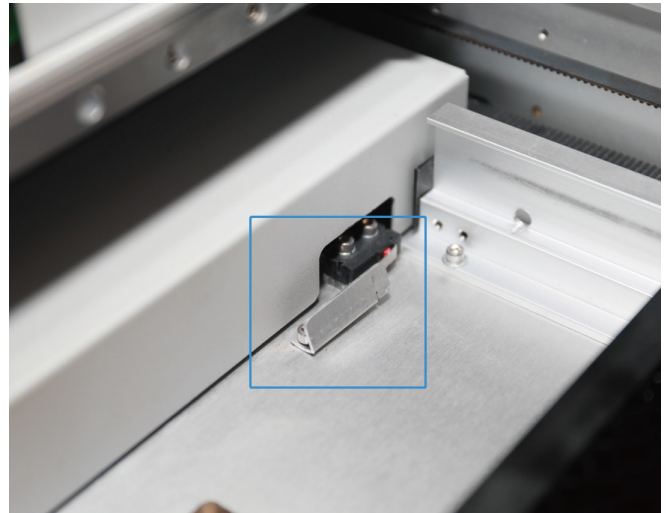

Figure 8
2) Check whether the drawer protection limit is working properly. When the drawer is pulled out, the protection limit red light goes out, the LED light dims, when the drawer is closed, the protection limit red light turns on, and the LED light turns on, it is normal operation(Figure 8)